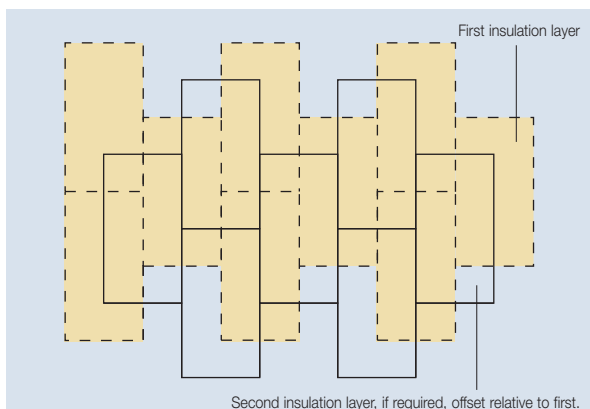

Figure 3 – Offsetting of Multiple Insulation Layers
- If two layers of insulation are required, they should be horizontally offset relative to each other so that, as far as possible, the board joints in the two adjacent layers do not coincide with each other (see Figure 3).